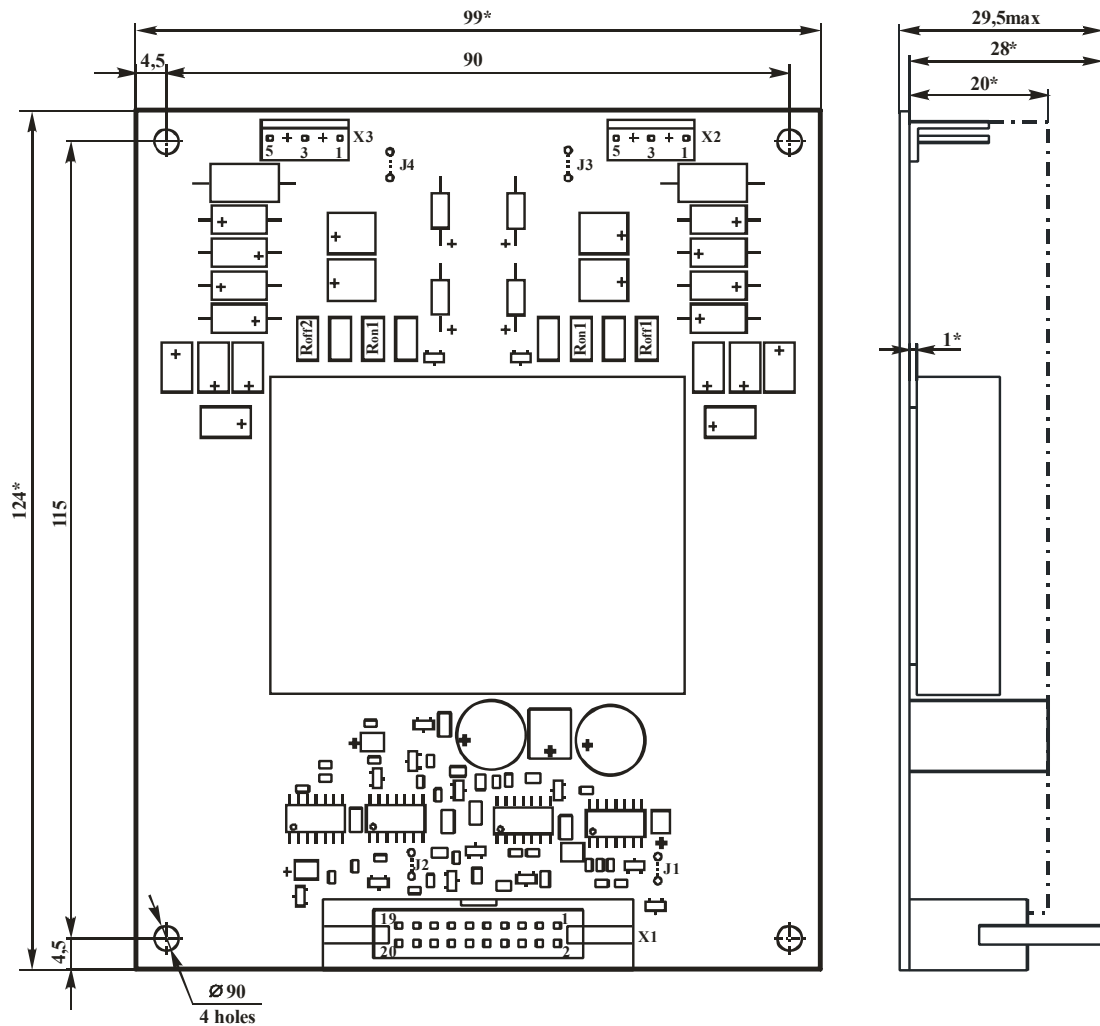
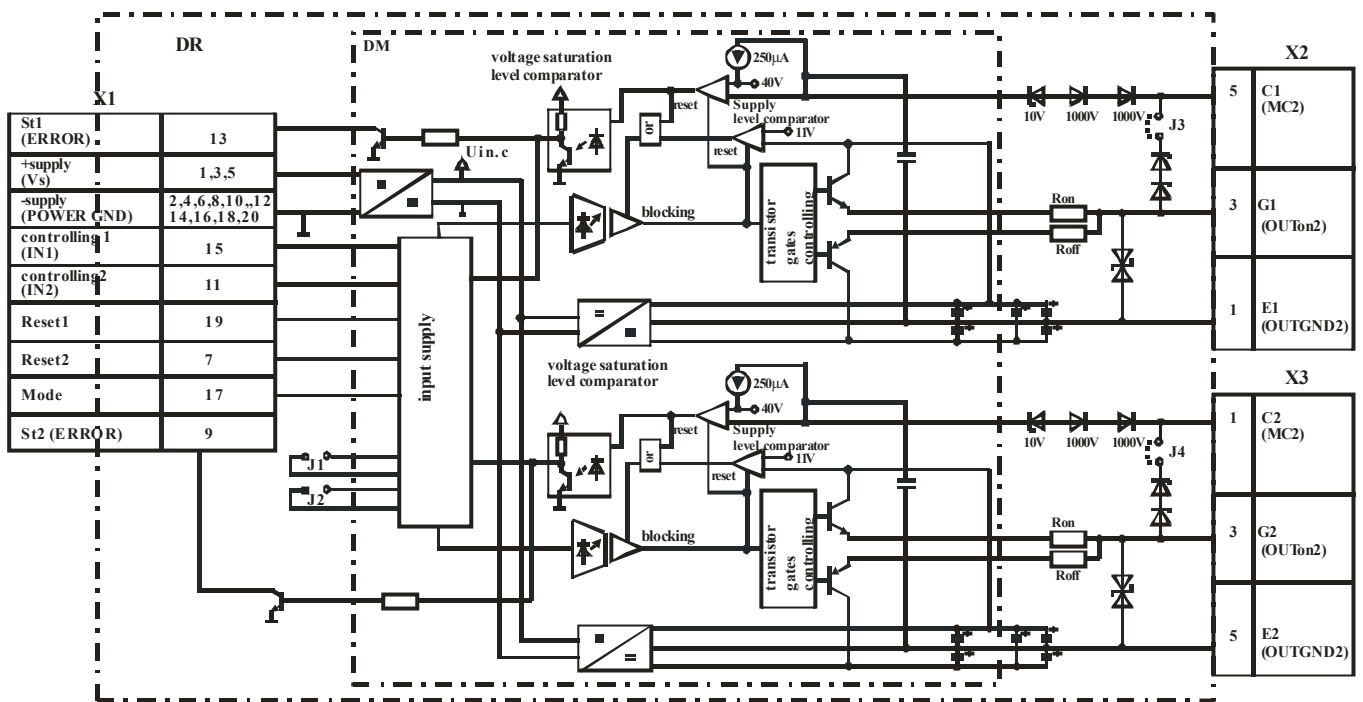

Figure 1 – Overall drawing of driver
Figure 2– Functional circuit and driver turn-on circuit
3.2 Overall drawing is shown at Figure 1, driver functional circuit and turn-on circuit are presented at Figure 2.